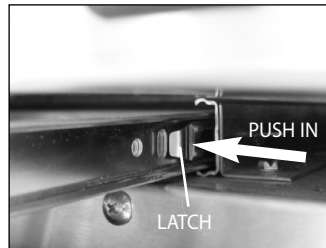

Fig. 14
- Push in latches on the sides of the slides while pulling out the drip tray (Fig.14).